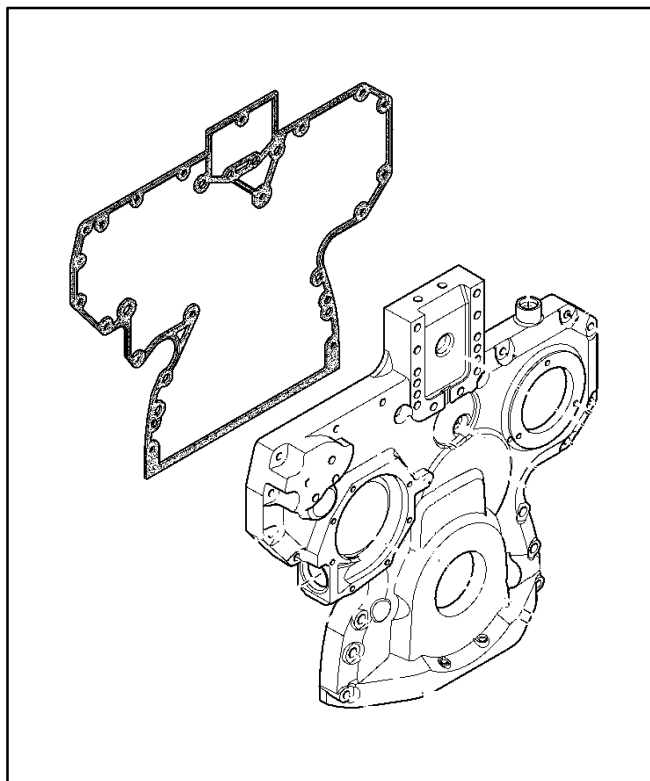

FIGURE 7-22. TIMING GEAR COVER AND GASKET
9. Remove the stud nuts and cap screws around the border of the timing gear cover (Figure 7-22).